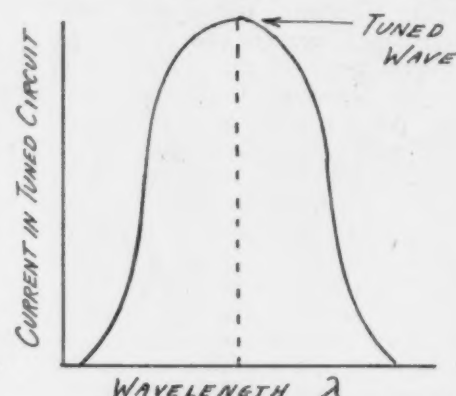

Fig. 8. Resonance Curves for Circuit of High Damping.
positive grid potential which was present during a certain part of each cycle as a result of the alternating potential induced in the grid coils. As previously explained, a current flows in the grid circuit when the grid is positive and this results in losses. Provision might have been made for the elimination of these losses by inserting a small battery into the grid circuit in such a way as to make the grid negative with respect to the filament at all times. While the  $C$  battery method is generally employed in non-generating tube circuits its use in generating circuits is not common. The more general practice consists in the use of a small capacity and leak resistance. This is indicated in Figs. 8 to 12.
**Meissner Transmitting Circuit.** The circuit of Fig. 8 is a rearrangement of that of Fig. 1 to include plate and filament batteries, grid condenser and leak, and antenna and earth connections.  $C_a$  of Fig. 1 corresponds to the antenna-earth capacity of Fig. 8. The resistance  $r$  of Fig. 1 is the resistance of the new
The construction of  $L$ , Fig. 8, should be such as to minimize resistance, particularly high frequency resistance.  $L_p$  and  $L_g$  may be made of small double cotton-covered magnet wire (No. 18 and 22 respectively) for circuits employing 5 watt tubes. It is preferable to space the turns on  $L_p$ . The plate battery (or generator) should preferably be shunted with a capacity of 0.002 to 0.01 mfd. to pass the high frequency pulsating constituent of plate current. The various positions at which the plate battery may be inserted into the circuit will be considered later. For low power circuits the position shown is recommended, both from the point of view of efficiency and economy.
The transmitting key is placed at a point of low potential in Fig. 8 and it serves in this position to open the circuit supplying plate energy. Various other locations for this device are often used, as will be seen later.